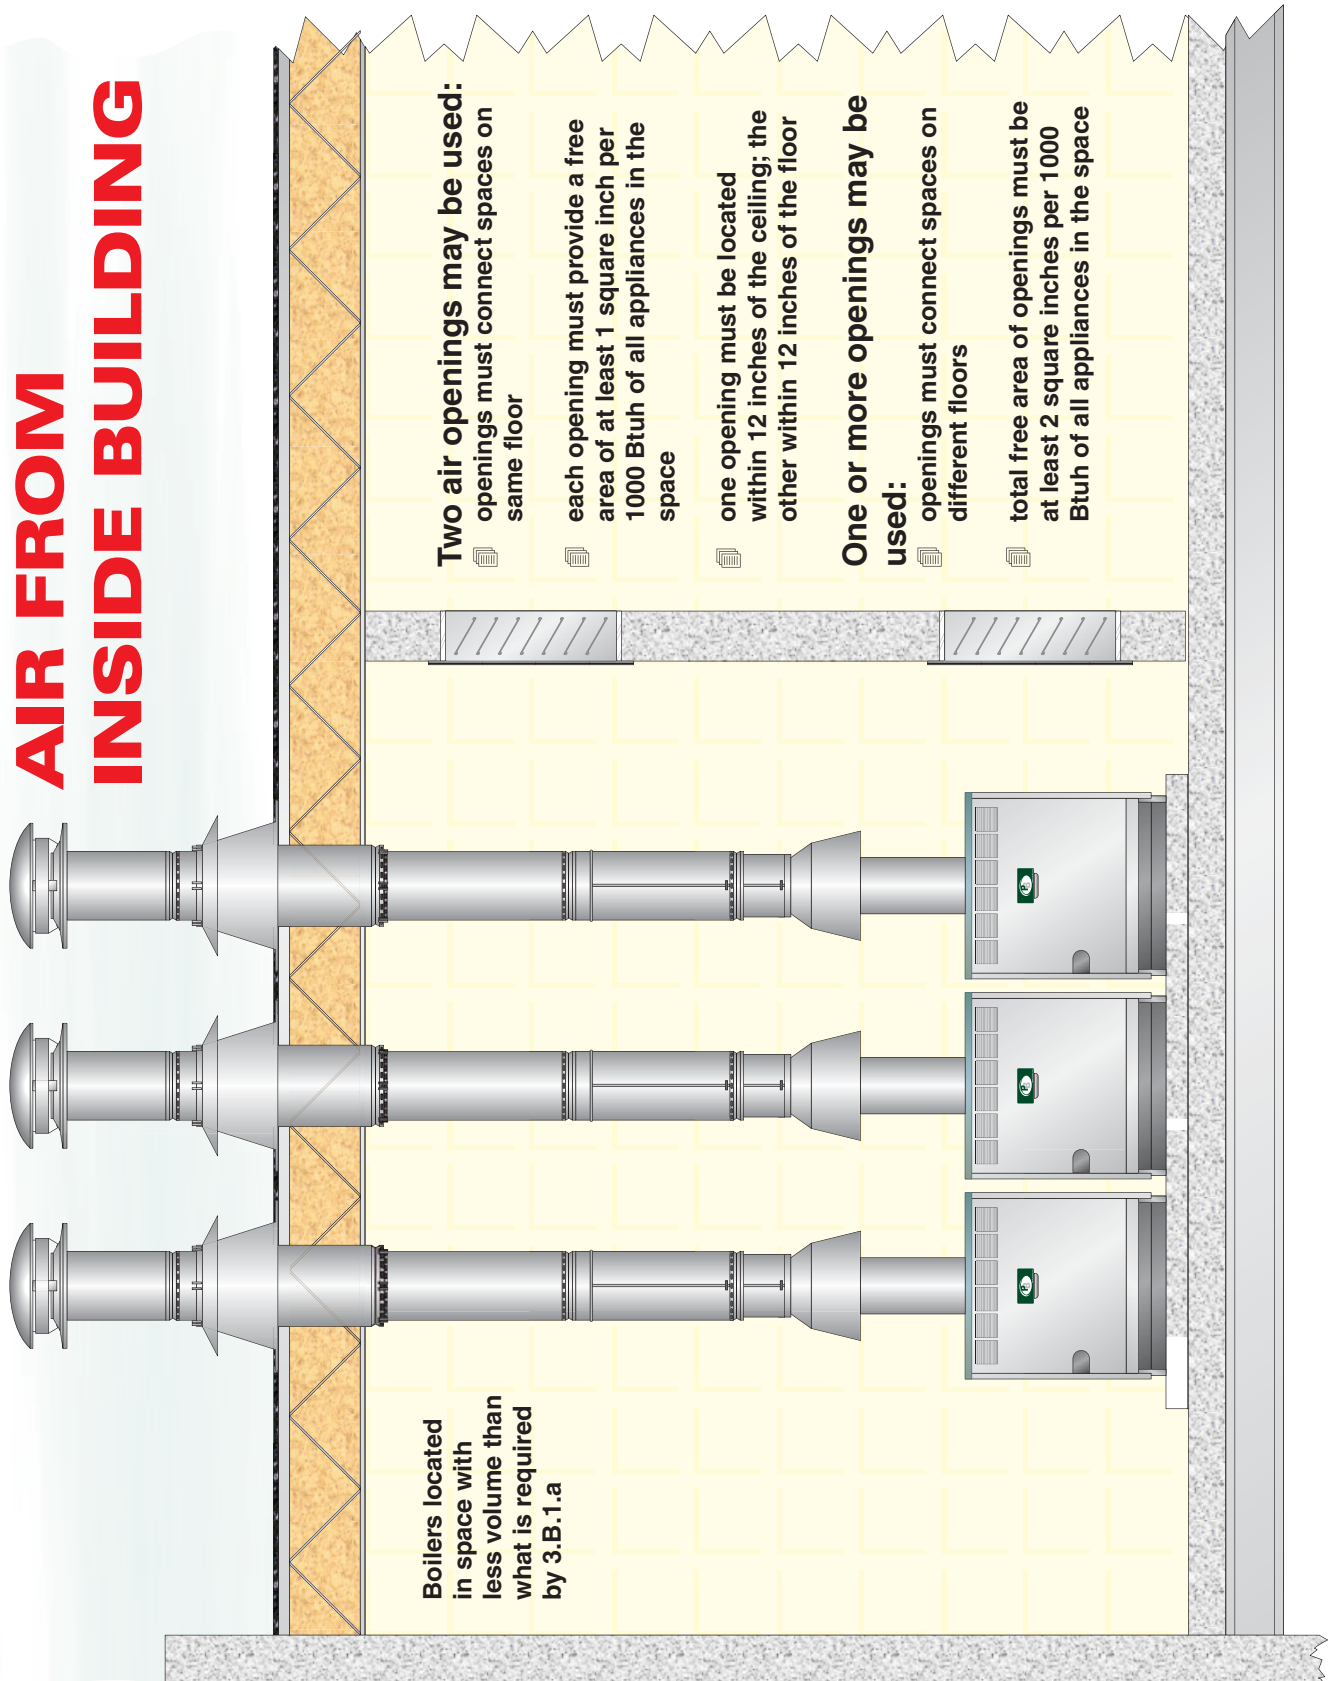

Figure 3.6: Provide Combustion/Ventilation Air Openings as Required by Codes.
1. The size and location of the indoor openings comply with Figure 3.6.